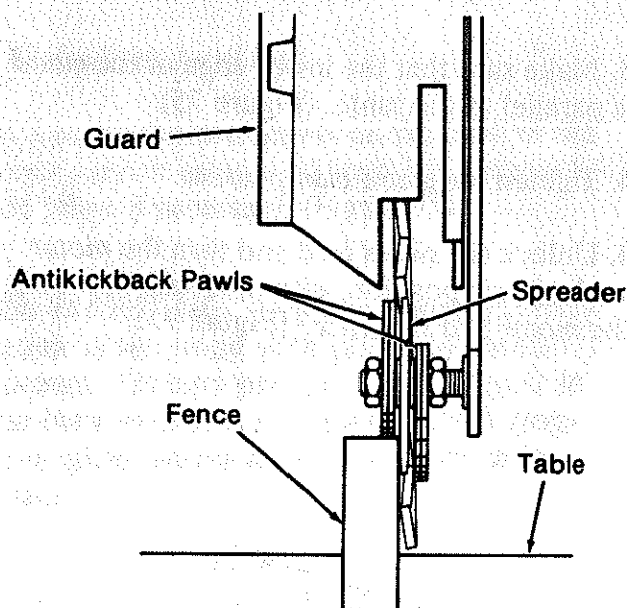

Fig. 76
11. Lower the *spreader* and *antikickback pawls* until the *spreader* is against the *fence*, and the *pawls* on one side of the *spreader* are on top of the *fence*. (Figure 76)